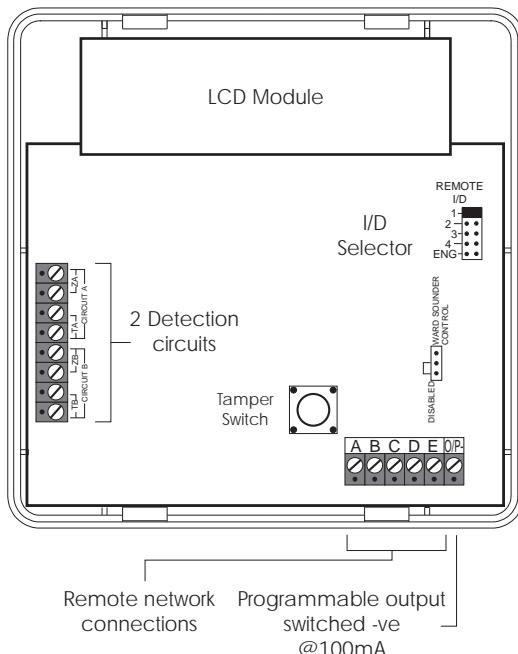

Figure 8 TS900 Remote Keypad Layout
3. Connect "Remote Network" and detection circuit cables to the appropriate terminals, see Figure 8.